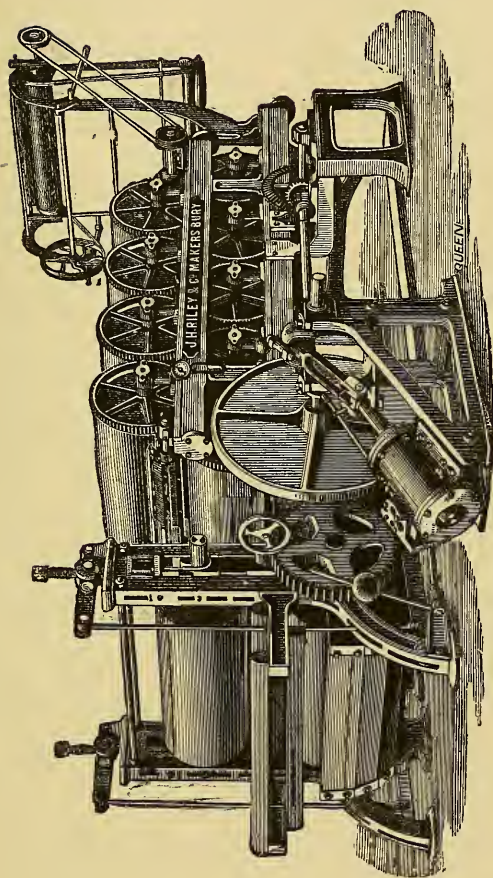

Fig. 72.—Combined Starch Mangle and Drying Machine.
**Cotton Curtains and Laces.**—These goods are put first through the singeing process, the goods by the ordinary process being wrung or pressed and hung up in a hot room to dry. An improved machine now in use (Fig. 72) wraps the fabric round in a kind of coil between two copper cylinders, the outer one being perforated with holes. The revolutions of the machine are 1000 per minute, so that the centrifugal force thus obtained quickly drives off the damp and every particle of moisture.